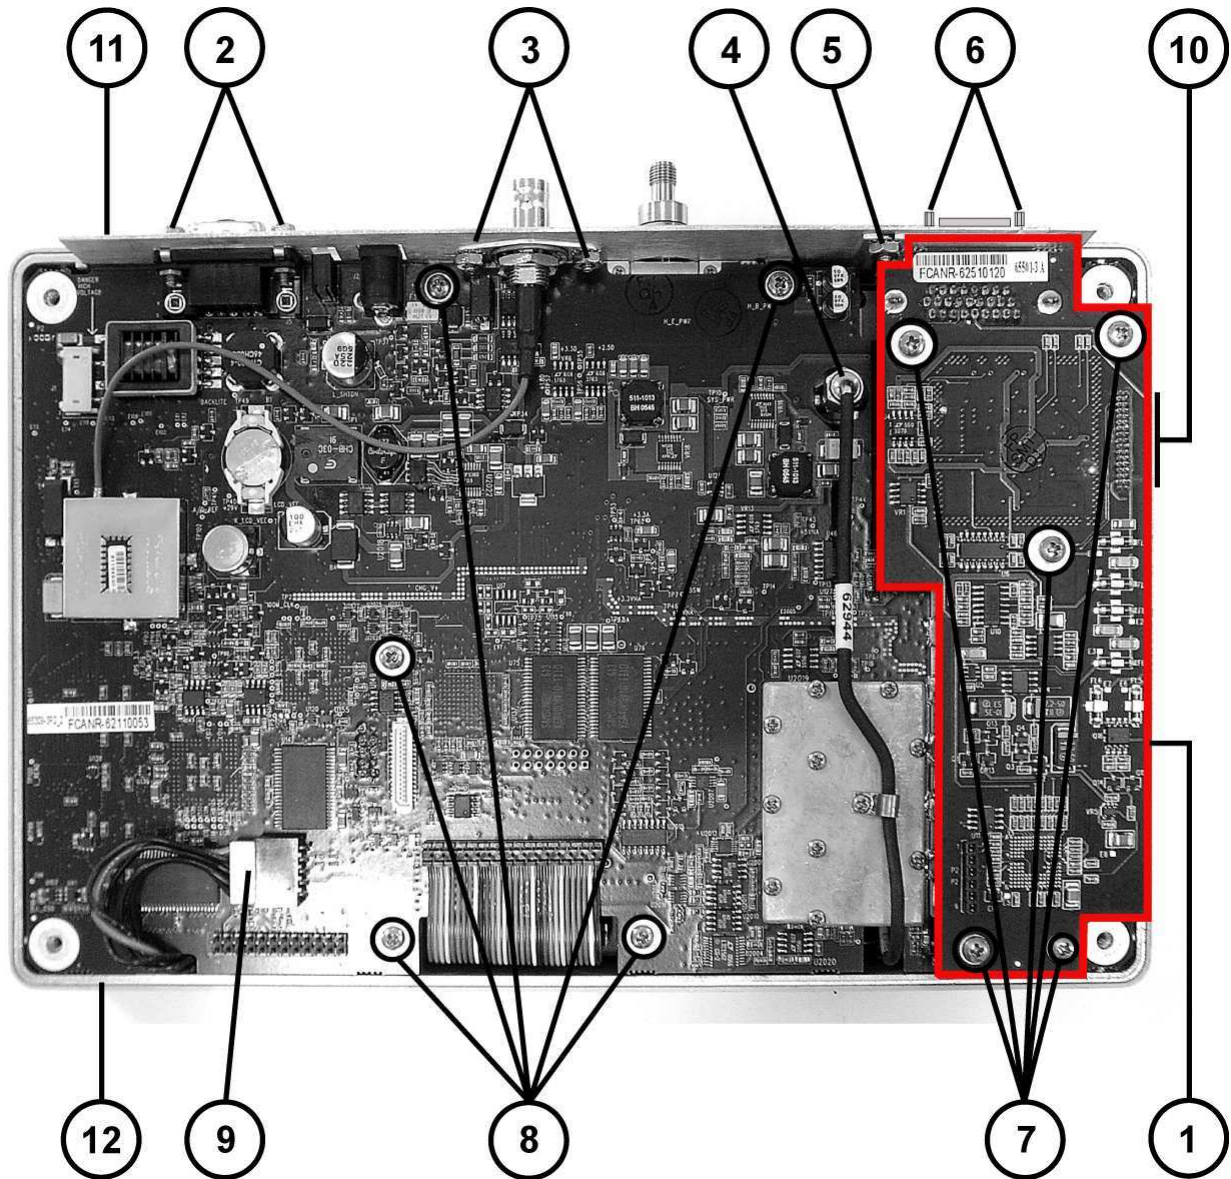

Figure 3-12. Main PCB Assembly and Option 22 CW Source Control PCB Assembly
Table 3-6. Callout Index for Figure 3-12, “Main PCB Assembly and Option 22 CW Source Control PCB Assembly”
3. Outside the case, remove two (2) hex standoffs from the RS-232C DB-9 (m) connector (Figure 3-12 #2).
4. Inside the case, remove two (2) 6-32 keps from the GPS connector (Figure 3-12 #3).
5. Disconnect the semi-rigid coaxial cable SMA connector from the RF PCB. Leave the cable in place (Figure 3-12 #4).
6. Remove the 6-32 keps holding the Connector Adapter Plate in place. The plate will be loose but not removable at this point (Figure 3-12 #5).
7. Outside the case, remove two (2) hex standoffs from the Option 22 CW Source DB-26 (m) connector (Figure 3-12 #6).
8. Inside the case, remove five (5) 6-32 Phillips mounting screws holding the Option 22 CW Source Control PCB assembly in place (Figure 3-12 #7).
9. Remove five (5) 6-32 Phillips mounting screws holding the Main PCB assembly in place (Figure 3-12 #8).
10. Disconnect the battery connector from J7 on the Main PCB (Figure 3-12 #9).
12. Gently lift the bottom edge of the Main PCB assembly closest to the ribbon cable (Figure 3-12 #11) and gently pull towards the bottom of the case. The goal is to create clearance between the Connector Panel and the Main PCB assembly.
13. Gently lift the Connector Panel assembly (Figure 3-12 #12) and pull it towards the top of the instrument. The goal is to create more clearance between the Connector Panel and the DB-26 connector on the Option 22 CW Source Control PCB assembly.